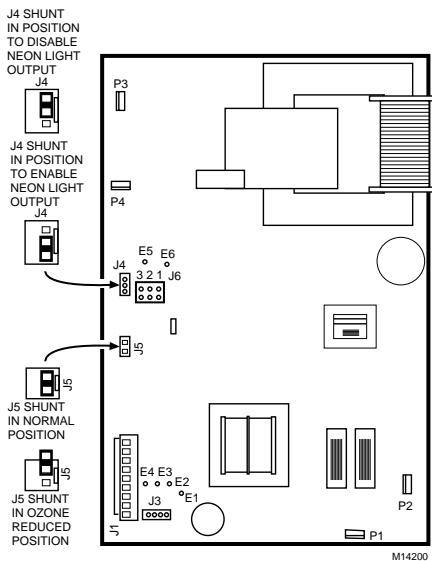

Fig. 8. Move J5 shunting bar to reduce ozone production about 20 to 25 percent.
The power supply board in the 208414H Kit has been calibrated to provide a selectable ionizer current output. Select the correct ionizer current by moving the J6 shorting bar to the correct position. See Tables 1 and 2. See Fig. 8 for location of J6. All other kits have single-current output.
- d. Locate J5 shunting bar on the power supply. See Fig. 8. Remove the shunting bar and reinstall on only one pin.